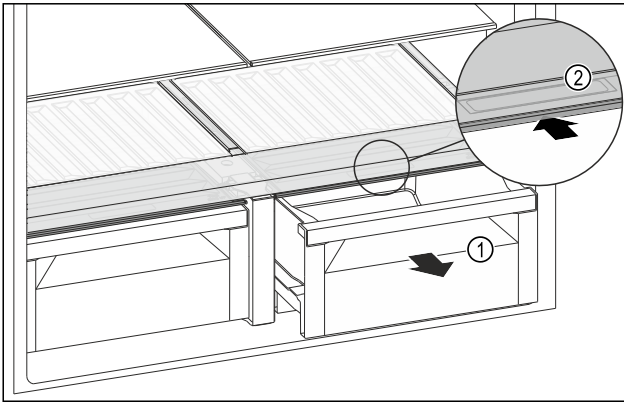

Fig. 133
- Pull out the drawer Fig. 133 (1).
- Grip the handle recess Fig. 133 (2) on the lid while pulling the lid backward at the same time.